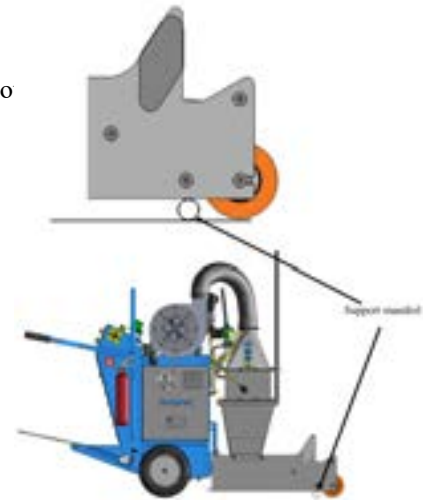

Figure 5
- f. Put the support mandrel under the unit to prevent pressure on the pressure roller that might create a permanent deformity (Fig. 5)